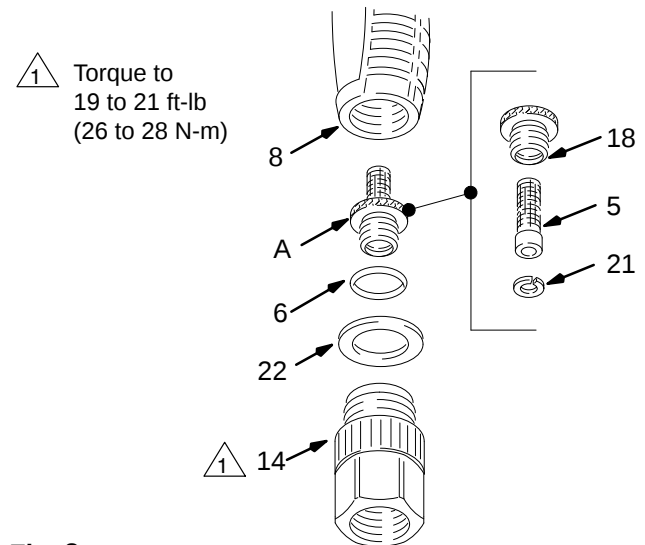

Fig. 8
2. Remove the swivel (14) and unscrew the strainer (A).
4. Reassemble, and torque the swivel to 19 to 21 ft-lb (26 to 28 N-m). See Fig. 8.